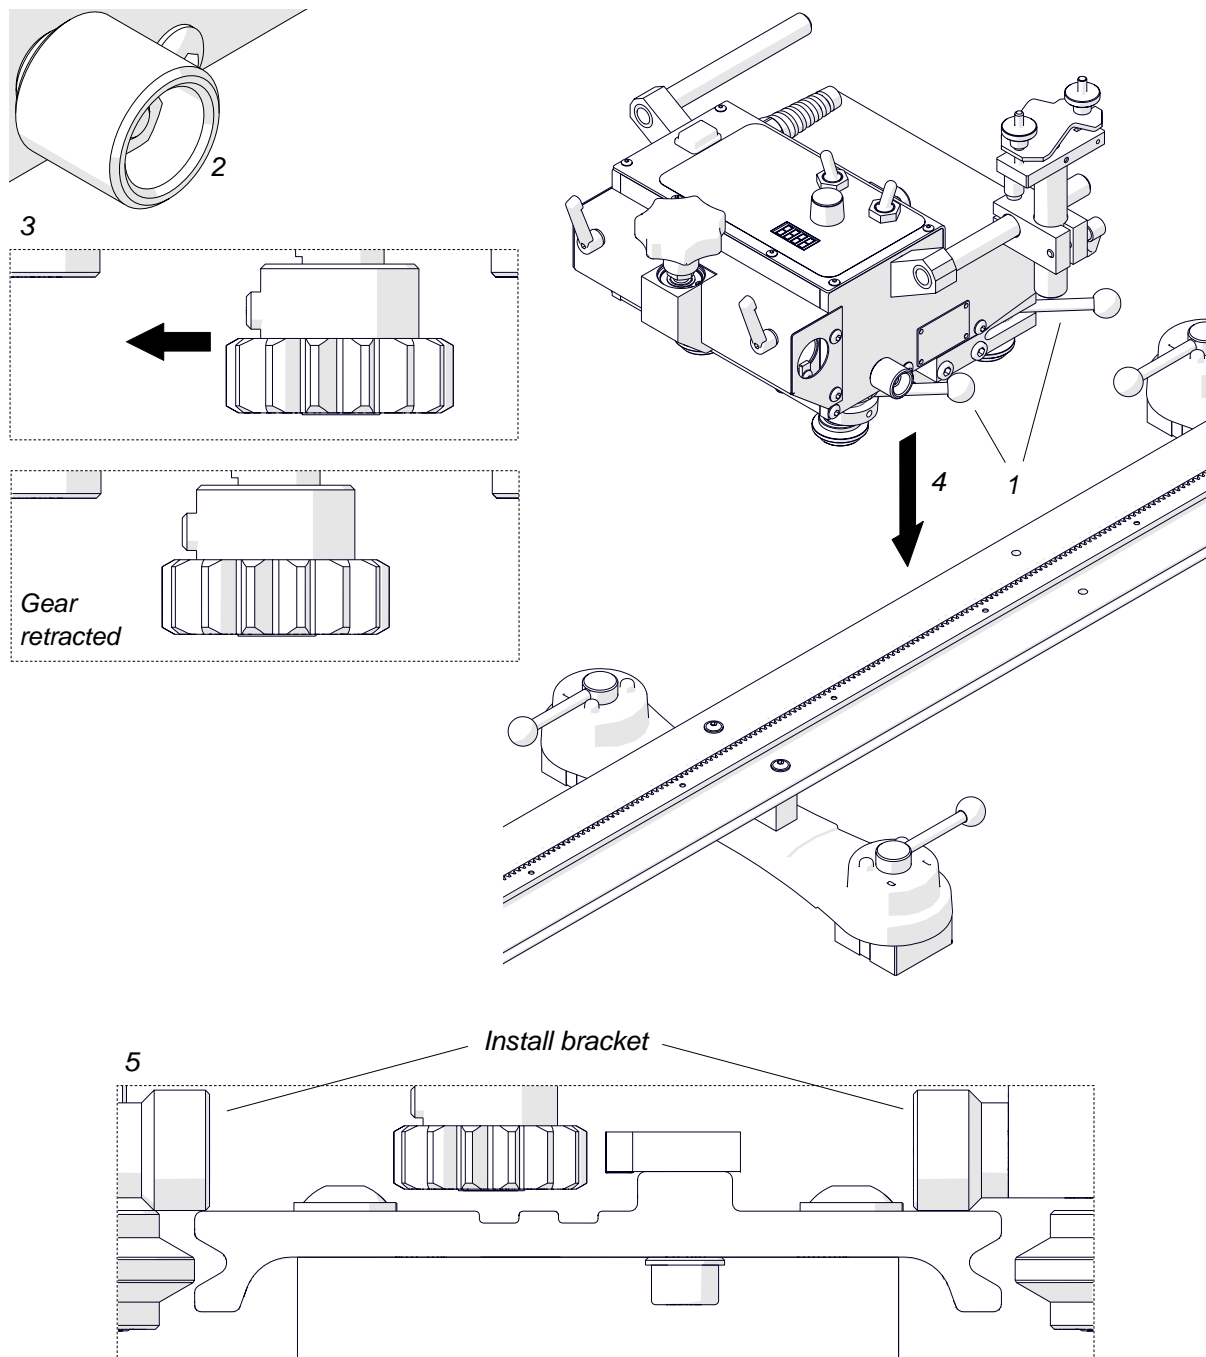

Fig. 6. Putting the carriage on a straight track
Set the power switch, arc ignition switch, and travel direction switch to 'O'. Next, set the levers to OFF (1, Fig. 6), and then loosen the knob (2) fully to retract the gear (3). Then, put the carriage so that the install brackets are on the rail (4, 5).